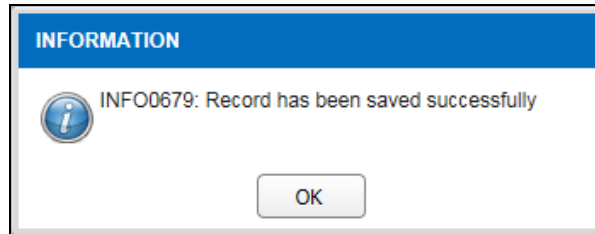

Figure 3.3.1-5 Information Message
- Click on the button and information will be added in the Facility Details section as shown in Figure 3.3.1-6